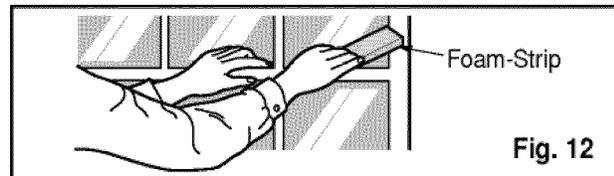

Fig. 12
8. Cut the Foam-strip to the proper length and insert between the upper window sash and the lower window sash.(See Fig. 12)